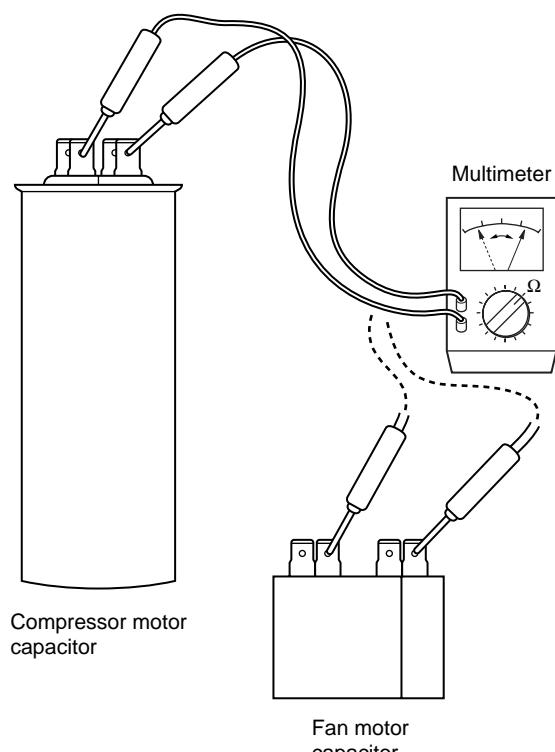

Fig. 21
- Remove the lead wires from the capacitor terminals, and then place a probe on the capacitor terminals as shown in **Fig. 21**. Observe the deflection of the pointer, setting the resistance measuring range of the multimeter to the maximum value.